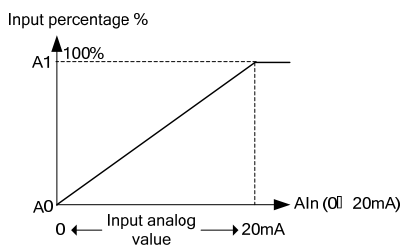

Figure 6-20 Corresponding percentage of input analog value (current)
- ◆ When current analog value input is selected, please refer to Figure 6-20.